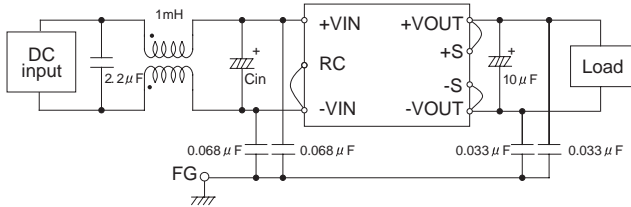

Fig.3.1 Recommended external input filter
(2) External capacitor on the input side
(3) Recommended of noise-filter
■ Install an external input filter as shown in Fig.3.1 in order to reduce conducted noise.  $C_{in}$  is shown in Table 2.1.